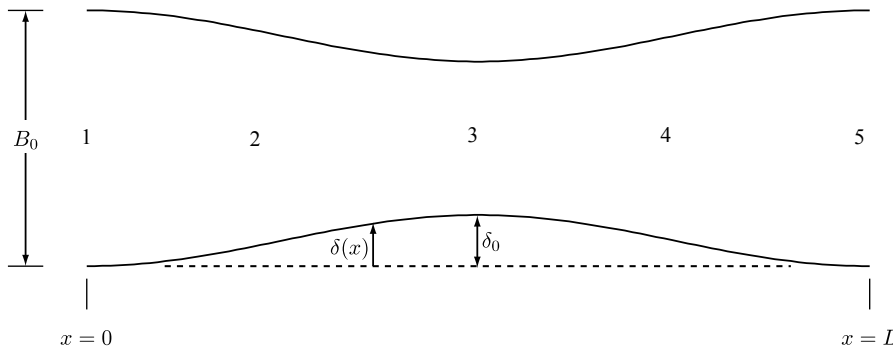

Figure 2: Top view of a width contraction in a rectangular channel.
2. Water flows through a horizontal open channel with rectangular cross section. The side walls form a symmetric contraction as shown in Fig. 2. The shape of the lateral contraction is